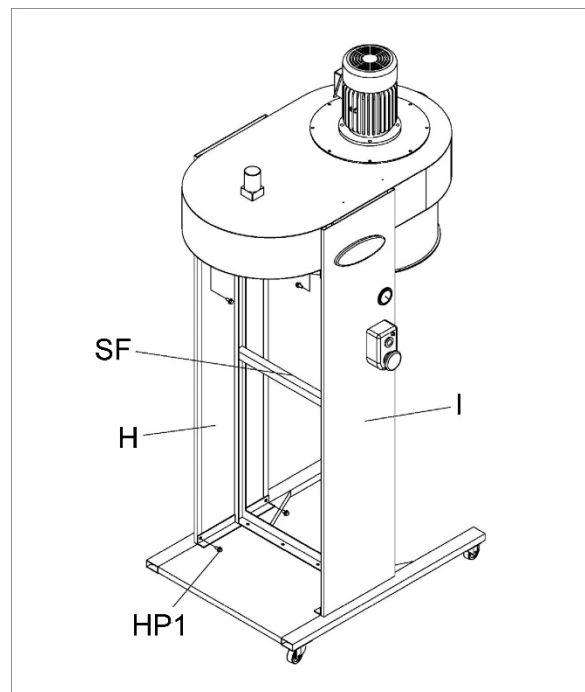

Figure 6
5. Attach left panel (L, Figure 6), and right panel (H) to frame (SF) with hex flange bolts (HP1). NOTE: Feed switch cords through to top of housing before tightening screws on left panel.